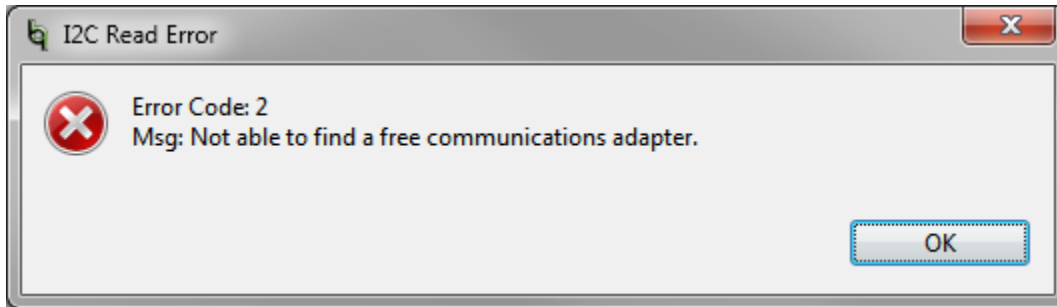

Figure 6. Communications Adapter Error
10. If an error pops up stating the communications adapter was not found (Figure 6), click OK to proceed. Next, unplug and re-plug the adapter.